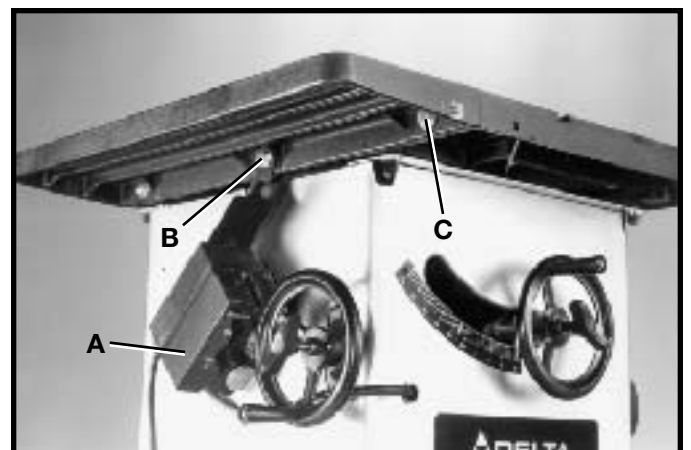

Fig. 6
1. The on/off switch (A) Fig. 6, is shipped attached to a mounting bracket at the left side of the machine.
2. Remove screw and flat washer (B) Fig. 6, that is holding the switch and bracket to the machine. Remove the switch from the side of the machine. **Replace screw and flat washer (B). WARNING: DO NOT REMOVE SCREWS (B) AND (C) AT THE SAME TIME.**
3. Remove screw and flat washer (C) from the underside of the extension table at the front of the saw.